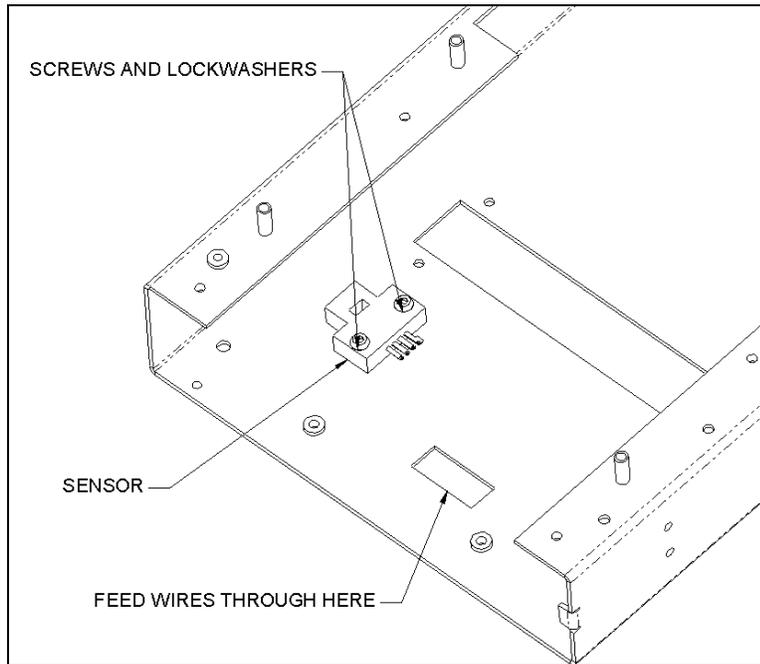

Figure 9-12 Eject Sensor
- 1 Remove the two M3 x 10 SHCP screws and two M3 lock washers (Figure 9-12).